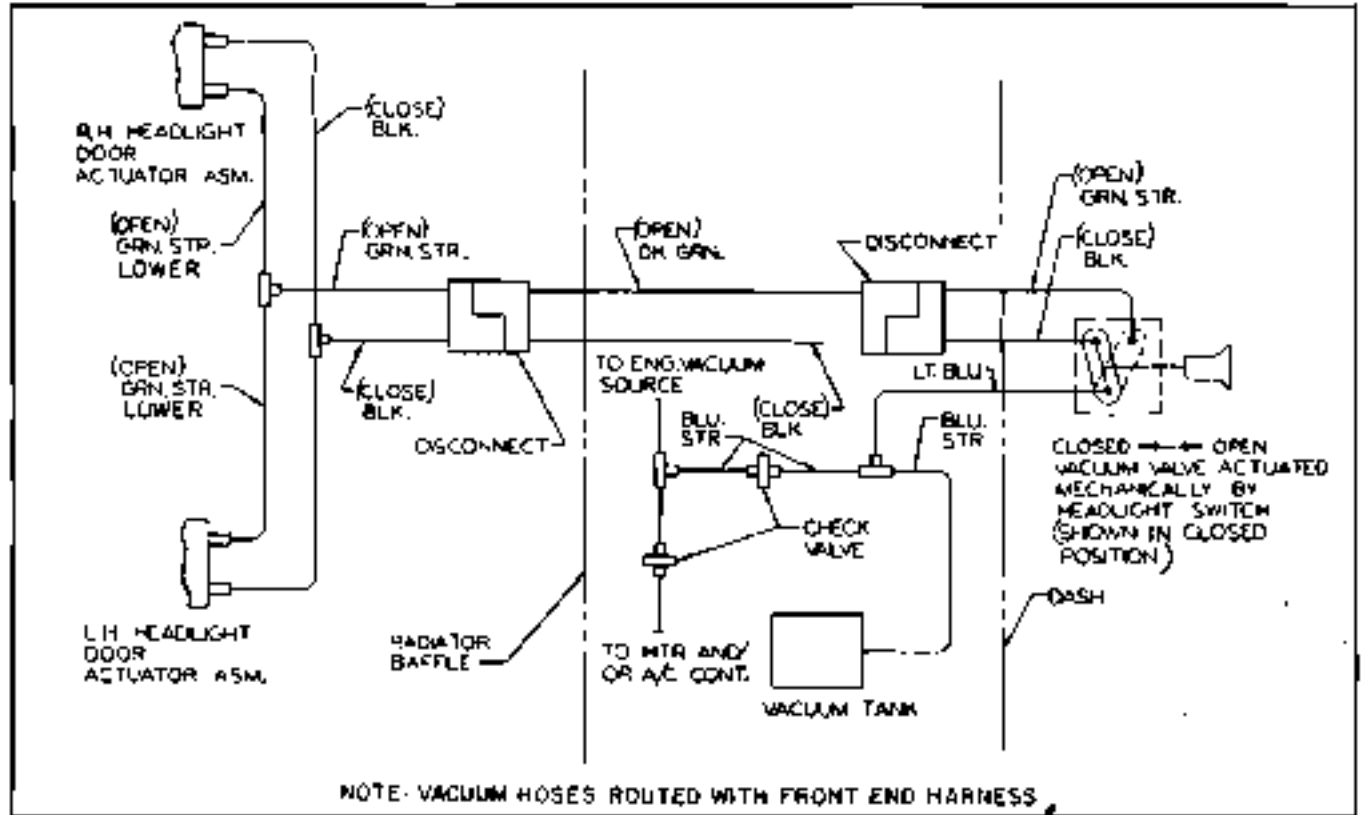

Fig. 12-41 Vacuum Operated Headlamp Door Schematic
6. Use Fig. 12-41 for connection of vacuum hoses.